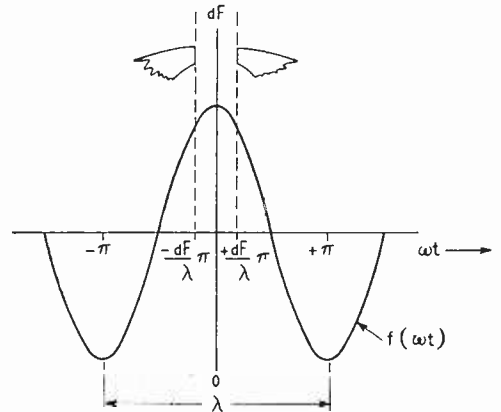

Fig. 7. Method of calculating gap loss
*Frequency Response*—The gap length  $dF$  is the most important dimension. The gap loss can be calculated by simple integration. From Fig. 7,  $dF$  represents the effective magnetic gap which is usually 20% greater than the actual mechanical gap, due to "end effect," etc. The gap loss at
The crystal structure of barium titanate and lead titanate ( $\text{PbTiO}_3$ ) is shown in Fig. 7(a). Above  $T_0$ , the lattice cell is cubic, 4Å in size (254 million Å = one inch), and the titanium ion is at the centre. Below  $T_0$  it is displaced by an amount  $x$ , equal to 7% of the cell-side, relative to the octahedron of oxygen ions (in  $\text{PbTiO}_3$ ); the A ions are displaced 11% in the same direction. In barium titanate, the corresponding figures are 3% and 1½%, but in this case, the octahedron is also distorted, the ions marked I being displaced 1% in the opposite direction. It would not be correct to assume a dipole strength made up of terms like ( $4e$  times  $x$ ) for the titanium for two reasons: (i) the crystal bonding is not all "ionic," so the effective charge on the titanium is less than  $4e$ , (ii) each off-centred ion is in a local field which must distort the electron cloud surrounding it, because of *electronic* polarisability, so that each ion becomes itself a dipole at its displaced position, and of unknown strength. Notice that the extent of off-centring quoted is that which is observed; it gives no indication whether or not it is induced (by co-operative effects). Also below  $T_0$ , because of the spontaneous polarisation  $P$  now developed, the electrostriction discussed in the previous article in
Fig. 7. (a) Perovskite cell  $\text{ABO}_3$ .  $A = \text{Ba}^{++}$  or  $\text{Pb}^{++}$  etc.,  $B = \text{Ti}^{++}$  etc.,  $\text{O}^{--}$ . (b) Centres of  $\text{PO}_4$  groups in  $\text{KH}_2\text{FO}_4$ , projected on horizontal plane.
In Rochelle salt, the unit cell contains 4 each of the atoms given in the chemical formula, and is a very complicated structure. In  $\text{KH}_2\text{PO}_4$ , the cell containing 8 each of the formulae is about 10Å, 10Å, 7Å. The K atoms and  $\text{PO}_4$  groups are centred  $3\frac{1}{2}$ Å vertically apart, if we describe the 7Å cell dimension (the ferroelectric axis) as "vertical." But those  $\text{PO}_4$  groups whose projections in Fig. 7(b) are neighbours are only separated vertically by half of  $3\frac{1}{2}$ Å, so that the top of one  $\text{PO}_4$  group is level with the bottom of a neighbour. Then in a  $\text{PO}_4$  group each top O is only  $2\frac{1}{2}$ Å from an O belonging to the bottom of another  $\text{PO}_4$  group, the line of separation being almost horizontal. Midway between each of these close oxygen atom pairs is a hydrogen atom; its position has been discovered by neutron diffraction experiments. Below  $T_0$ , the hydrogen atoms move along the O-O line, 0.20Å from the midway position, in such a way that each  $\text{PO}_4$  group finds two of the four hydrogen atoms closer than before; the P atom, in that  $\text{PO}_4$  group which is approached, moves vertically away from that O atom by 0.05Å; the K atoms move 0.06Å vertically the other way. Thus the hydrogen displacements cannot cause the polarisation, because they are across the ferroelectric axis. But apparently their charge causes the necessary polarisation vertically in the  $\text{PO}_4$  groups. Also below  $T_0$ , the spontaneous  $P$  together with the piezoelectric effect causes a distortion of the  $10\text{Å} \times 10\text{Å}$  base so that its angles are now  $\frac{1}{2}^\circ$  different from right-angles.